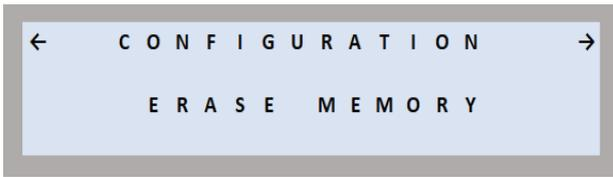

Figure 55
**NOTE:** When the Erase Memory operation completes, the program automatically returns to the Erase Memory Top Level Menu (Figure 55).